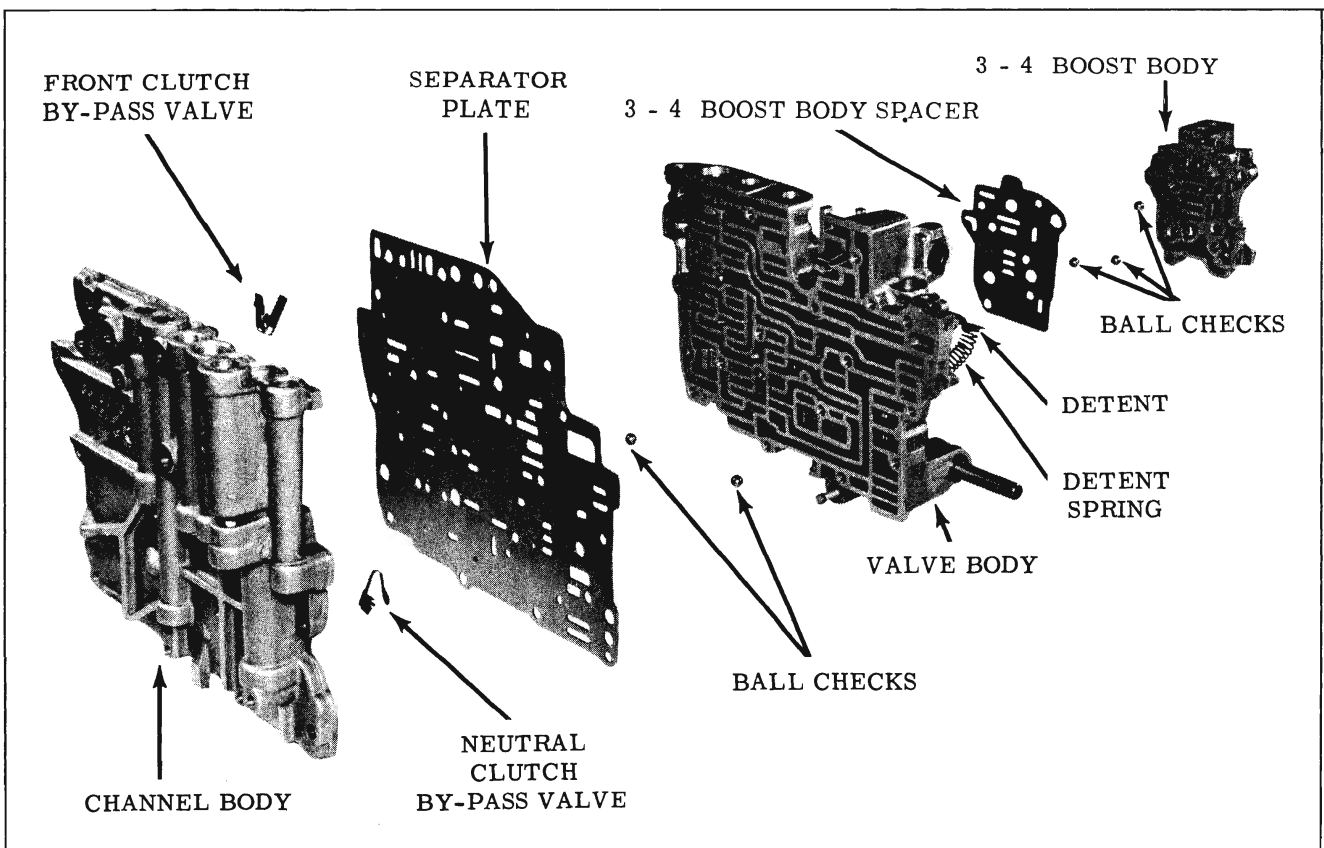

Fig. 3-88 Control Valve Body Assembly
**DISASSEMBLY AND ASSEMBLY OF CONTROL VALVE ASSEMBLY (Fig. 3-88)**